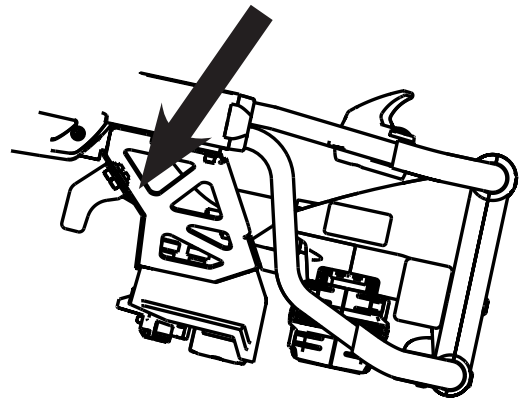

Figure 67b
- For Power-LOAD compatible cots, you must lengthen and attach the straps to the foot end fastener as indicated in Figure 67b.